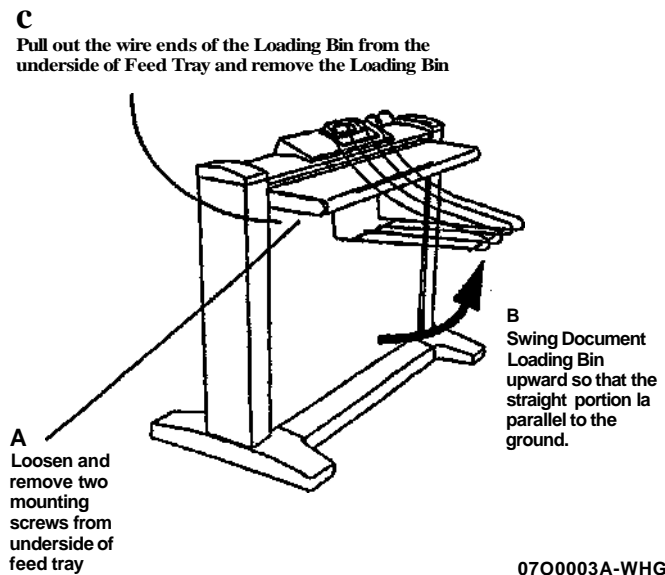

Figure 1 Removing the Document Loading Bins
1. (Figure 1): Remove the Document Loading Bins.